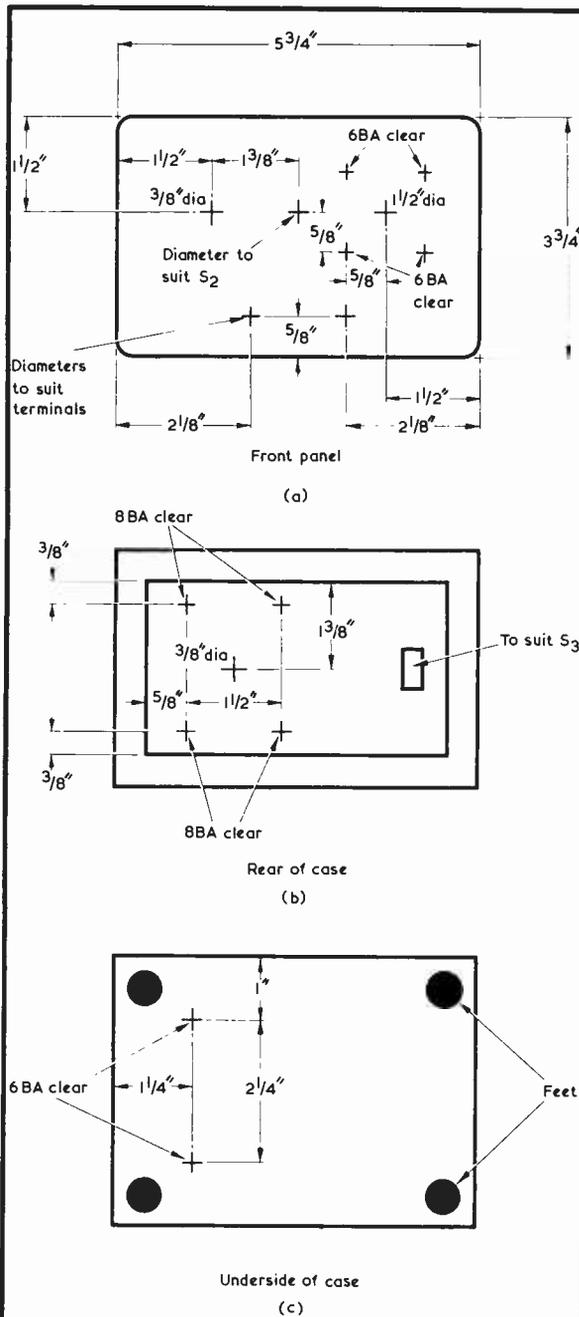
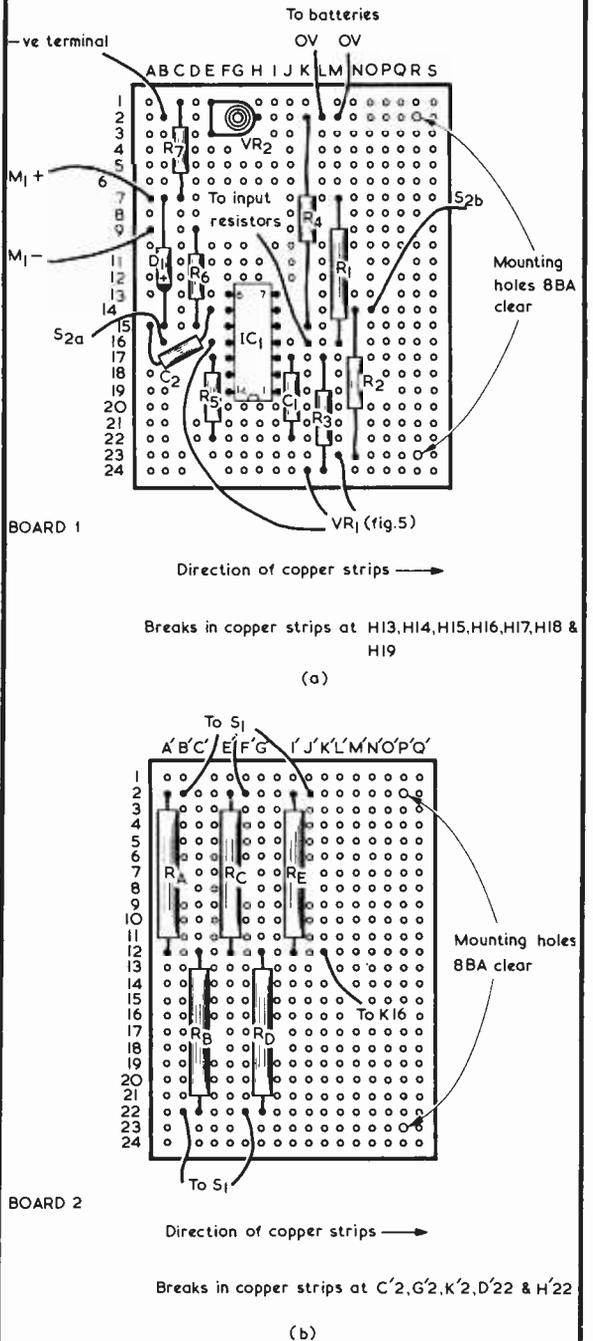

Fig. 3 (a) Drilling centres for the front panel, as viewed from the rear
Fig. 4 (a) Board 1, viewed from the component side
- 2 Pieces Veroboard, 0.1in. matrix (see Fig. 4)
Start off by drilling the case and front panel according to Fig. 3. The components should then be soldered onto the Veroboard as shown in Fig. 4, after drilling the mounting holes and making the specified breaks in the copper strips. A $\frac{1}{16}$ in. twist drill is ideal for this. The integrated circuit should be the last component to be